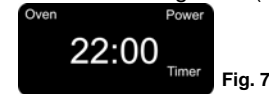

Fig. 7
- Press the "Timer/Temp" button and then the "Increase/Decrease" button to set the desired cooking time. (Fig. 7)